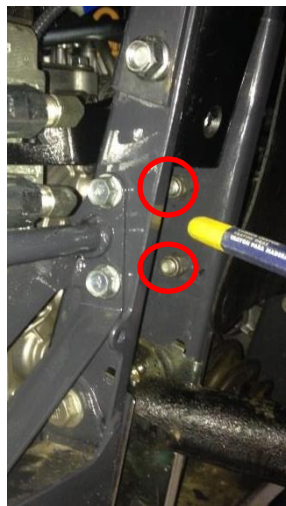

Figure 4
- 8) Install the provided hydraulic lines onto the dump bed cylinder (see Figure 4). The white hydraulic hose (30" long) goes to the top of the cylinder; the yellow hose (34" long) goes to the bottom of the cylinder.